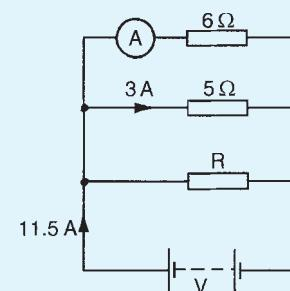

Figure 5.29
- For the circuit shown in Fig. 5.29 determine (a) the reading on the ammeter, and (b) the value of resistor  $R$